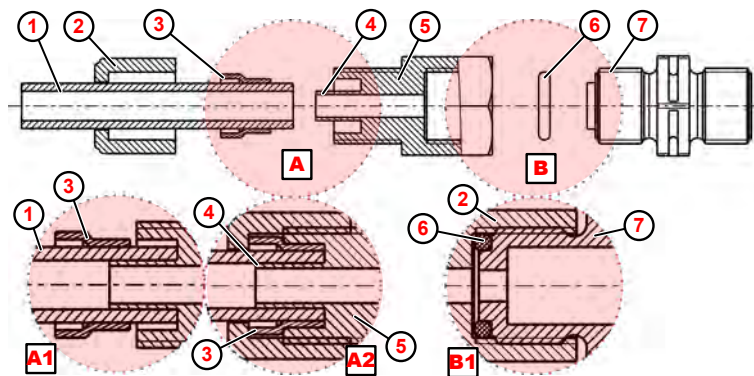

Fig. 7: Pipe and hose connection with integrated support sleeve
1. ➤ Place the o-ring ( Fig. 7 , ⑥ ) in the groove of the suction or pressure valve ⑦ .
2. ➤ Tighten the screw connection ⑤ (for details, see B1 ).
3. ➤ Cut off the hose with a straight cut ① .
4. ➤ Slide the union nut ② over the hose ① .
5. ➤ Slide the clamping ring ③ over the hose ① .
6. ➤ Slide the hose ① over the support sleeve ④ until it engages (for details,: A1 ).
7. ➤ Tighten the screw connection ⑤ (for details, see A2 ).